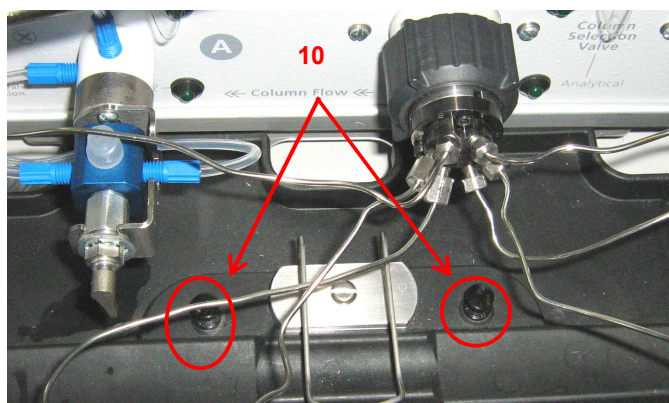

Figure 13: Leak tray holding black fasteners
14. The SUM Leak tray can be removed to create easier access to the lower solvent valve fittings by popping up the 2 black fasteners (10), and sliding out the tray from the tray holder (Figure 13)